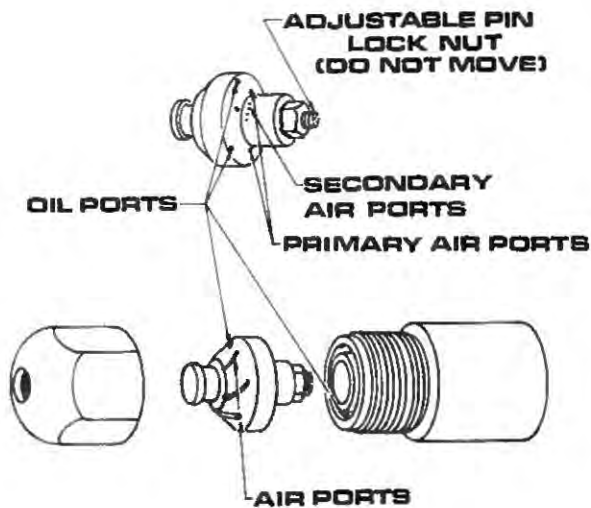

FIG. 5-5 AIR - OIL NOZZLE
2. The air atomizing nozzle is of the internal mixing type. Air and fuel are piped separately to the nozzle and are mixed in the swirl chamber so that a uniform emulsion is discharged through the orifice in a semi-solid cone spray pattern (See Fig. 5-5).